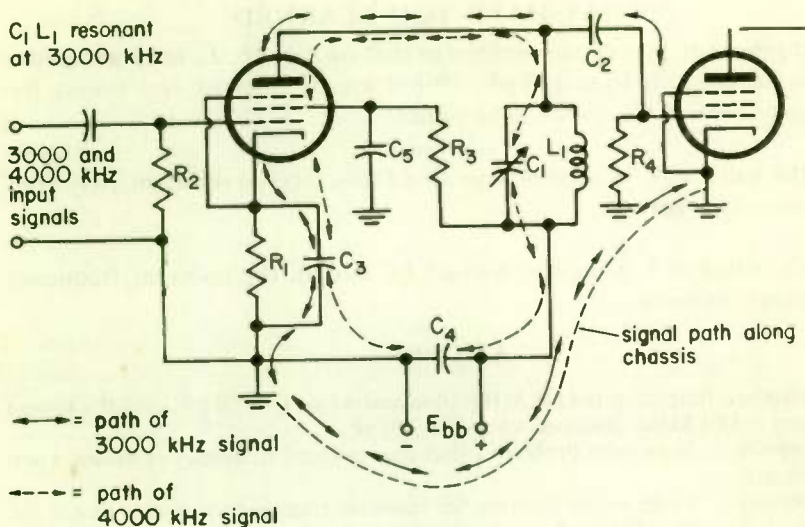

Fig. 16 The use of an LC circuit for tuning a stage.
EXAMPLE OF A PARALLEL LC CIRCUIT IN USE... A common use of parallel LC circuits is for tuning—that is, for adjusting an amplifier so that the desired frequency is amplified and undesired frequencies are not. Tuned circuit $C_1 L_1$ is used for this purpose in Fig. 16.
1. Suppose that, in a circuit similar to that of Fig. 16, L_1 is $20\ \mu\text{H}$ and C can be varied from 10 to 140 pF. What are the highest and lowest frequencies to which the stage can be tuned?